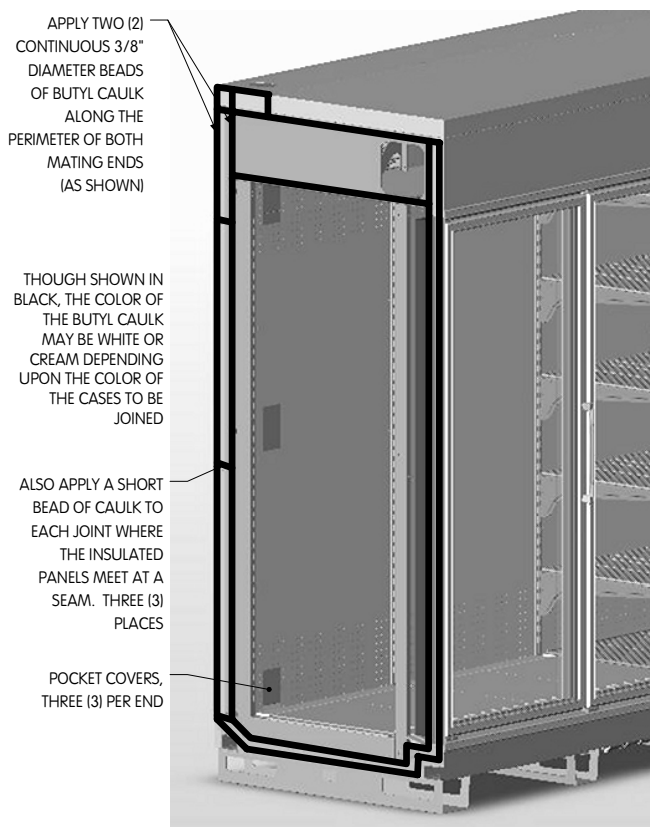
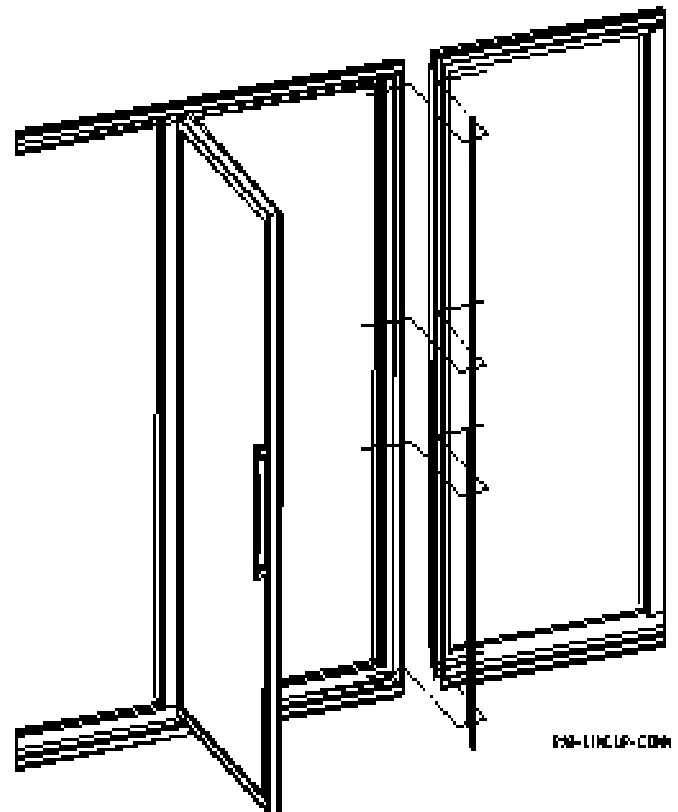

FIGURE 2A
FIGURE 2B
1. Set the first Reach-In into the desired position and level it. Run two (2) 3/8 inch diameter beads of Butyl caulk 1/2 inch in from both the inner and outer surfaces of the case end. (See Figure 2A)
2. Push the second Reach-In against the end of the first. Level the second Reach-In. Remove the left and right end floor covers and the rectangular pocket hole covers, accessing the holes in the end panels of each freezer as shown (Figure 2A). Install tee strips between the doorframes at case joints (See Figure 2B) Use the special screws and nuts provided.